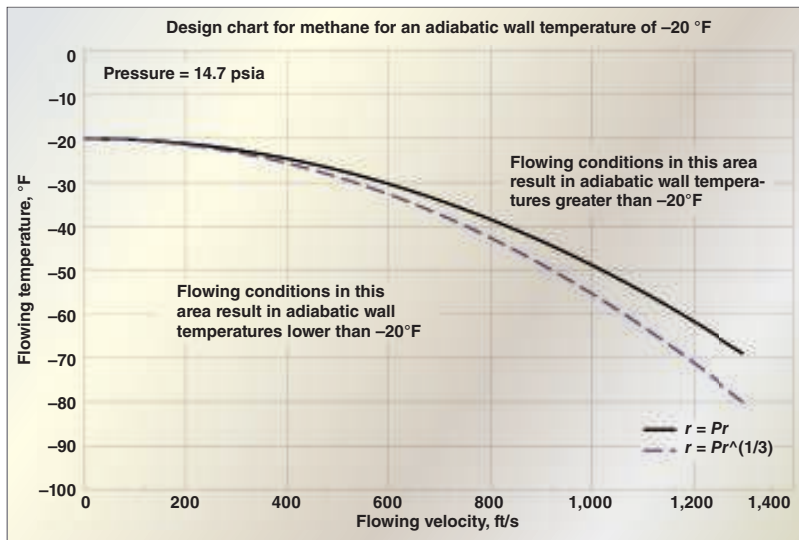

FIGURE 4. A design chart for methane shows the corresponding flowing velocities for adiabatic wall temperatures
Alternatively, design charts can be prepared for a specific gas and material specification to speed the screening of potential low temperatures. Using the fluid properties of methane, obtained by means of the NIST Refprop program [10], the locus of flow conditions that would result in an adiabatic wall temperature of -20°F were identified for the Eckert estimate for turbulent pipe flow using Equation (3), as well as the low temperature estimate using Equation (9), with the reference temperature evaluated using Equation (5). As shown in Figure 4, flow conditions above the line result in adiabatic wall temperatures greater than -20°F , while conditions below the line result in adiabatic wall temperatures less than -20°F .